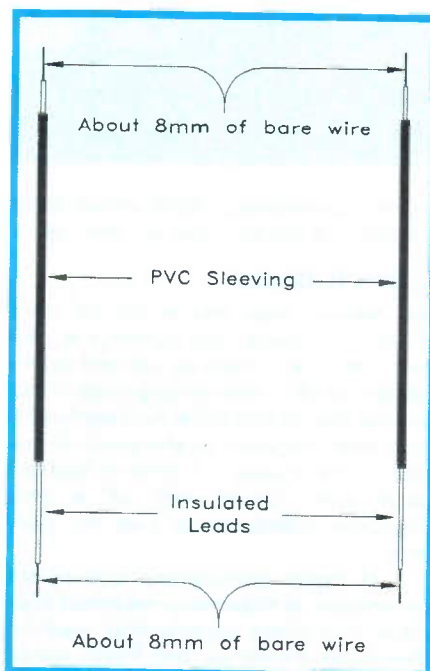

Figure 6. Preparing the probes.
f) The probes are made up from two pieces of insulated wire (coloured red and black) and two pieces of hollow insulated sleeving (also coloured red and black). The wire is multi-stranded, which means that the metal core consists of several very fine wires. The probes should be made up as shown in Figure 6, use wire strippers to remove the insulation where shown. The bare ends of the leads should be twisted together to prevent the